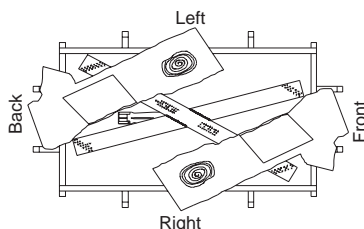

Figure 49 - Installing Logs "A" (Top View)
6. Place logs "A" as shown in Figure 49.